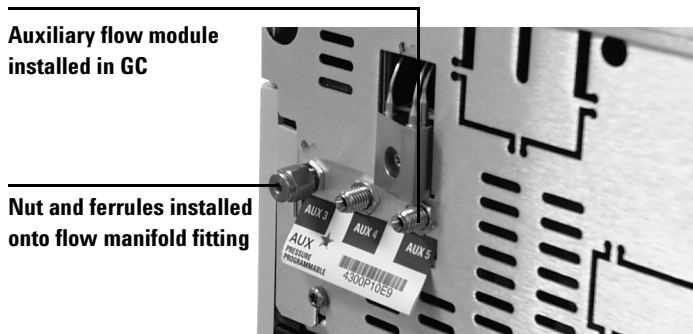

Figure 2 Loosely install nut and ferrule set
- 2 Loosely install a front ferrule, back ferrule, and nut on the auxiliary flow module fitting. See Figure 2.